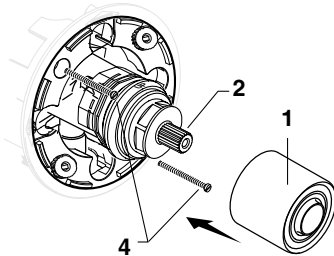

Figure 1a.
☒ **Figure 1a.** Push CAP (1) over VALVE CARTRIDGE (2) until seated against stop.